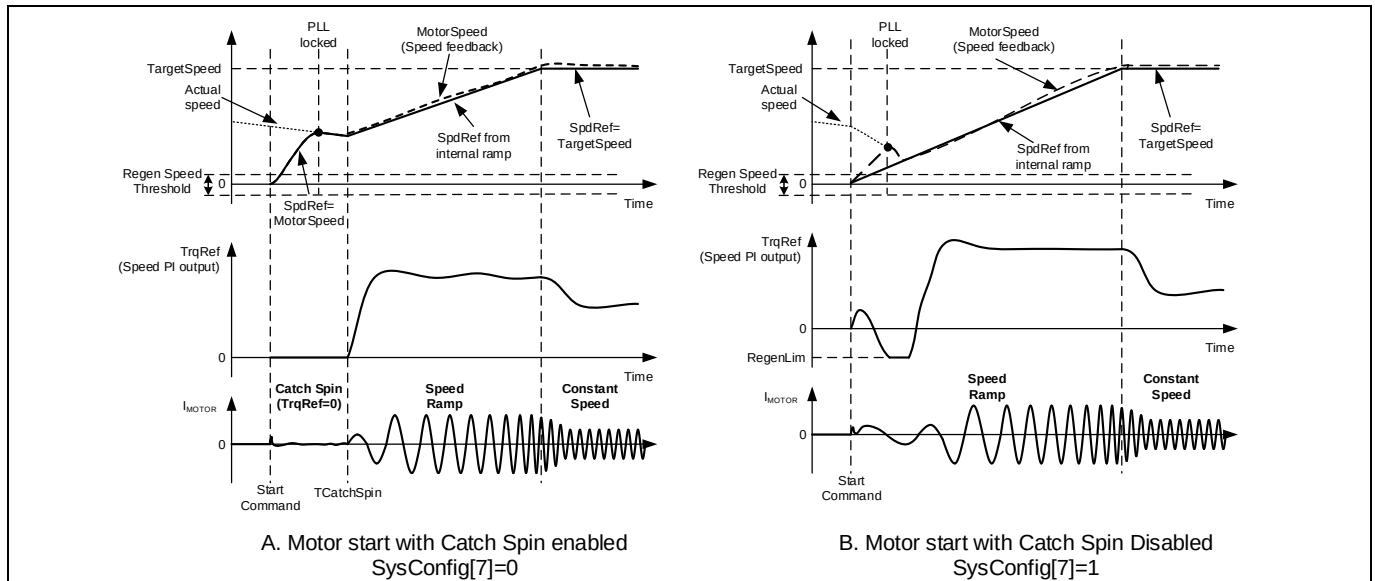

Figure 16 Forward Catch Spin - Motor start with/without catch spin
If the motor is spinning in the same direction as desired, then the catch spin sequence is termed as 'Forward Catch Spin'. Figure 16 (A) shows an example for 'Forward Catch Spin'. In this example, at the start command the motor is already spinning (in the desired direction). During the catch spin sequence, no motoring current is injected. After the catch spin time has elapsed, assuming the flux PLL locks to the actual motor speed, the motor speed at that instance becomes initial speed reference and starting point for speed ramp reference. The motor continues to accelerate or decelerate, following the speed ramp reference to reach the set target speed.
If catch spin is disabled, normal speed control starts immediately after the start command, without waiting for PLL to be locked. Usually the control would still be able to start a spinning motor, but motor speed may not increase/decrease seamlessly. As shown in Figure 16 (B), after the start command, the actual motor speed is higher than speed reference (SpdRef). Hence, the motor is decelerated (using regenerative braking) to force the motor to follow the speed reference (SpdRef). As the speed of the motor is higher than Regen Speed Threshold (RegSpdThr), the negative torque injected in the motor to achieve deceleration is limited by the value in